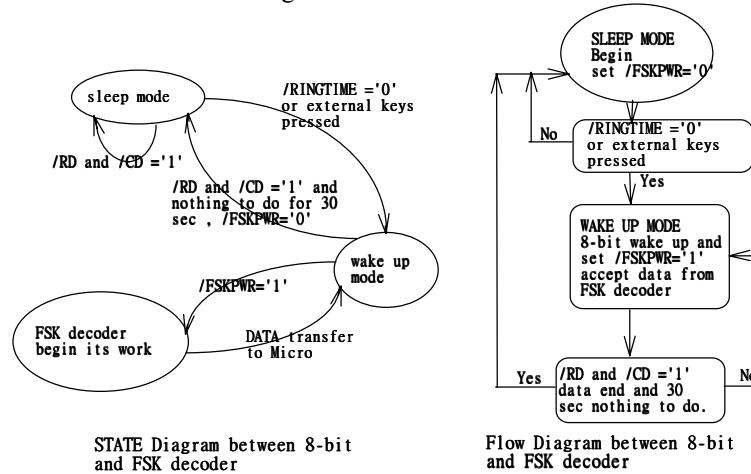

Fig.5 The relation between Bit0 to Bit3.
- \* See the configuration of the data memory in Fig. 5.
- \* The relation between Bit0 to Bit3 is shown in Fig.5